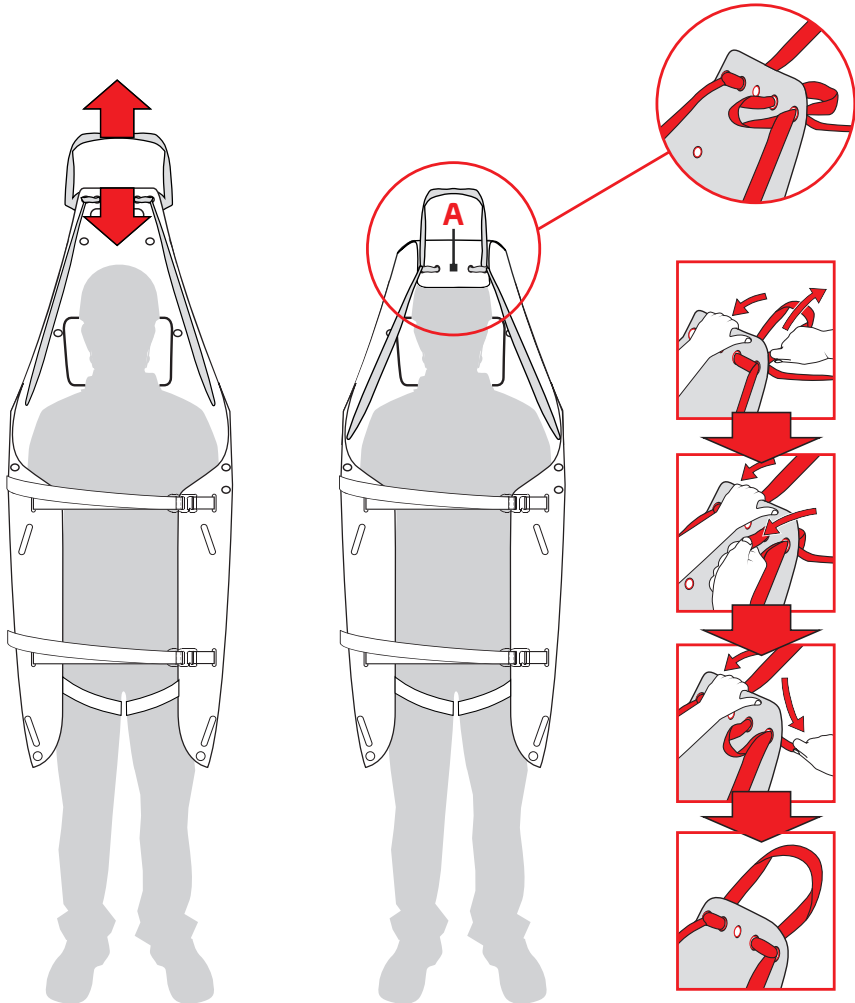

Fig.12
- Insert the thigh straps (L) in the A4 eyelets in the support surface and release the automatic buckles (G) (fig. 12).
- Dragging: tension the sling (E) to lift the end part of the support surface (A) enough to contain the head of the patient and immobilise it (fig. 12).